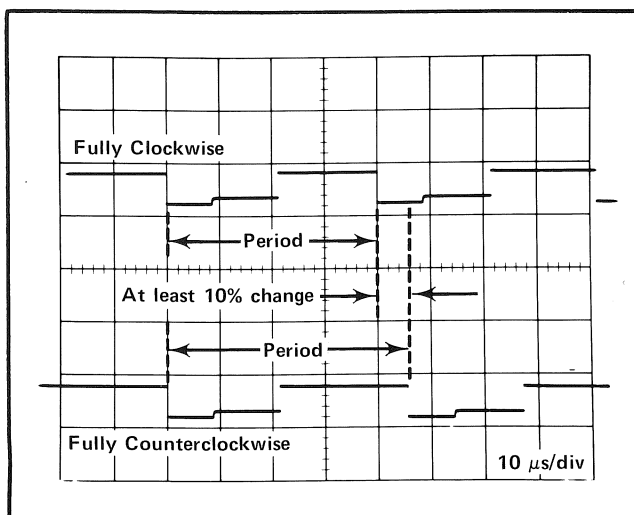

Fig. 5-4. Sampling Rate control range check (Step 12).
- Turn the SAMPLING RATE control fully clockwise and measure the pulse period (see Fig. 5-4).